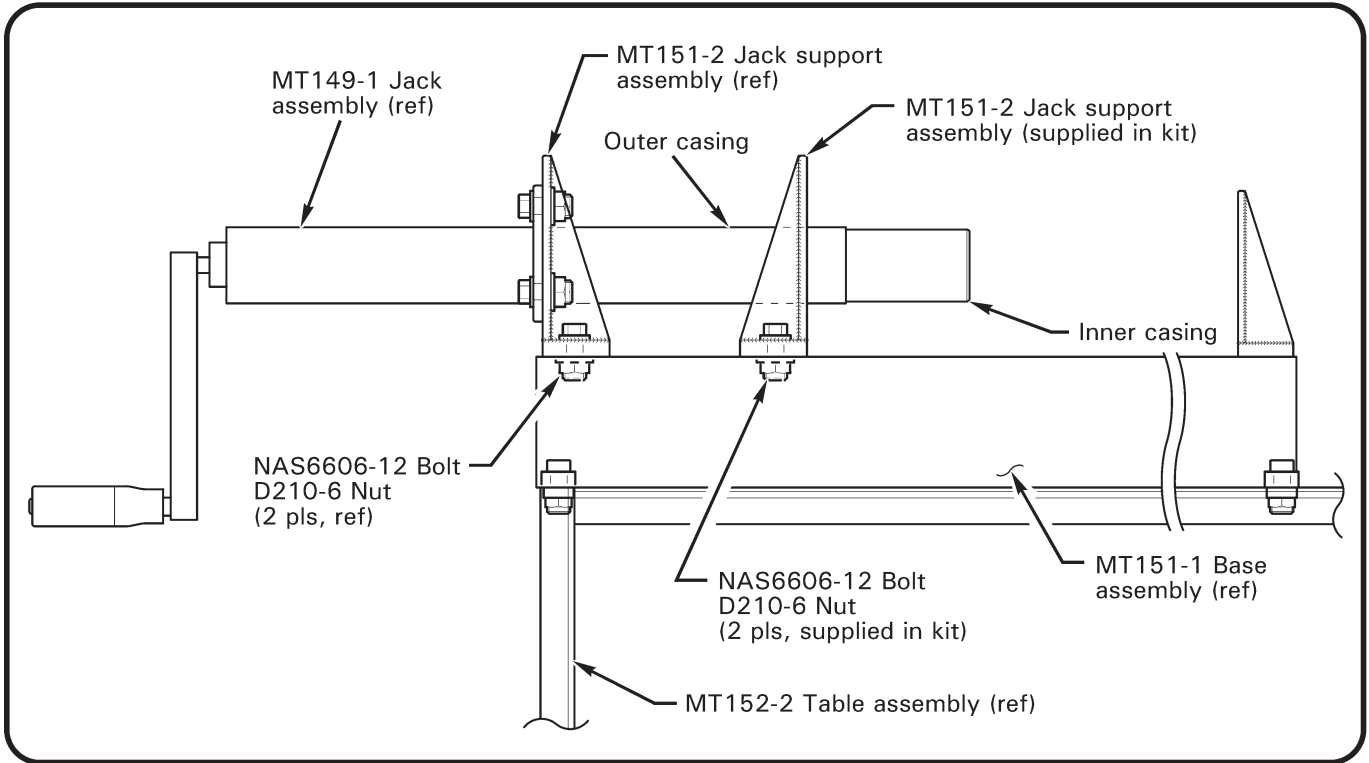

FIGURE 1 MT151-2 Jack support assembly installation
1. Refer to Figure 1. Remove installation hardware securing MT149-1 jack assembly & MT152-2 jack support assembly to base. Remove jack assembly & jack support assembly, leaving jack assembly secured to support. Retain hardware.
3. Drill (2) 0.390–0.397 inch diameter holes in base assembly as marked. Deburr holes and clean up debris.
4. Refer to Figure 1. Install jack assembly & jack support assembly using retained hardware. Install new MT151-2 jack support assembly to base using (2) NAS6606-12 bolts & (2) D210-6 nuts. Standard torque per R22 MM § 23-32, R44 MM § 23-32, or R66 MM § 20-32.